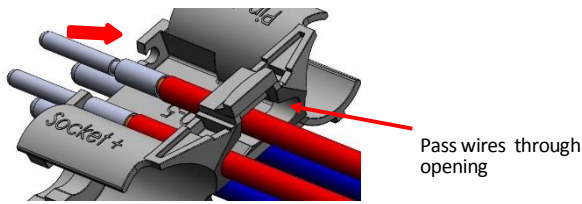

Figure 3
5. Install the upper auxiliary contacts on the top of the holder (Figure 3):